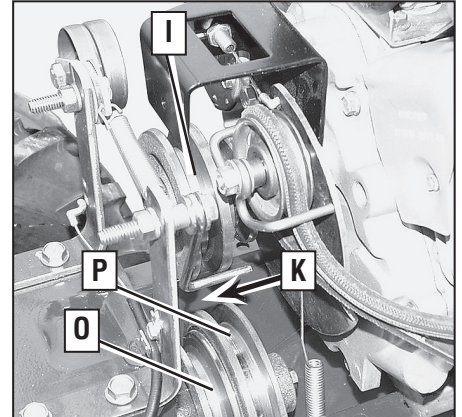
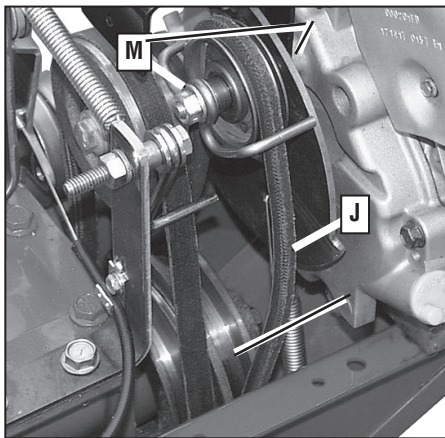

Figure 5-20: Arrow (K) shows insertion point for installing new forward clutch belt.
Figure 5-22: Right-side view.
3. From the front of tiller, insert the forward clutch belt in between the bottom of the engine drive pulley (I) and the top of transmission pulley (K, Figure 5-20).
6. Reinstall the reverse clutch belt. Insert the bottom of the belt into the frame, then pull down on the belt and roll it onto the large, forward-most groove of the transmission pulley (P, Figure 5-20).
The reverse clutch belt (J, Figure 5-22) is driven by the engine drive pulley (I, Figure 5-20). When the Reverse Clutch Control knob is pulled out, it pulls the reverse idler arm and pulley (N) which tightens the belt against the engine drive pulley. This drives the transmission drive pulley (L), resulting in reverse motion.
(L, Figure 5-22).
4. Use two 1/2" wrenches to loosen and remove wire belt guide (R, Figure 5-22) from the reverse idler arm pulley. Do not remove locknut and screw.
**IMPORTANT:** The reverse belt has a 'V' shape. When installing the belt, make sure that the widest (flat) side of the belt rides against the reverse idler pulley (N, Figure 5-22) and transmission pulley (L). If needed, the belt can be twisted "inside out" so that the "V" shaped side is on the outside and the widest side is on the inside.
3. Insert the belt down into the front of the transmission housing. Slip the top half of the belt onto the reverse idler arm pulley (N).
4. Pull the belt downward and loop the bottom half of belt around the front groove of transmission pulley (L, Figure 5-22).
and lock nut (M, Figure 5-22).